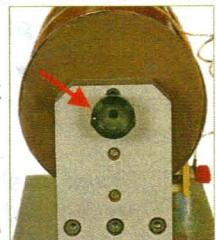

Figure 11b
- Insert the quarter wave plate into the hole in the pole piece (Figure 11b)